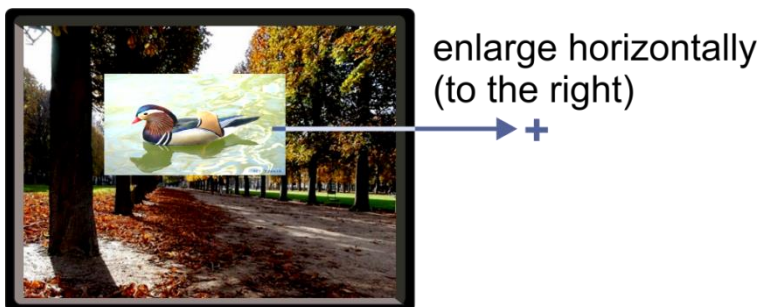

Figure 11: Increasing the Width
3. Select H width (an OSD slide bar appears) and press + to increase the width, or – to decrease the width, see Figure 11.